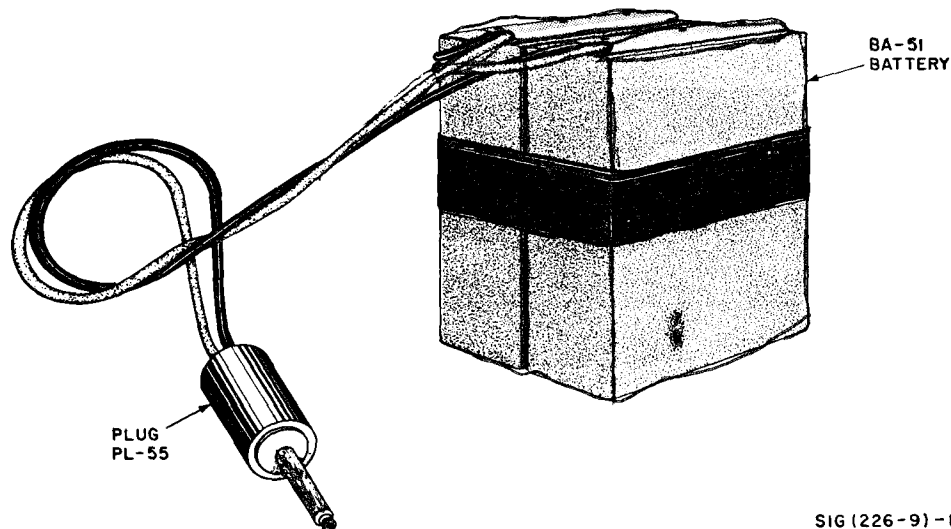

Figure 1. Field emergency dosimeter charger.
**1. Scope.** a. This bulletin contains instructions for making and using a field emergency dosimeter charger (fig. 1) for Radiacmeters IM-93/UD and IM-147/PD (usually called dosimeters).